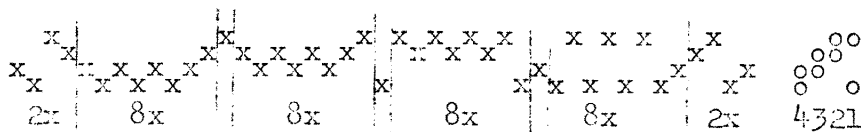
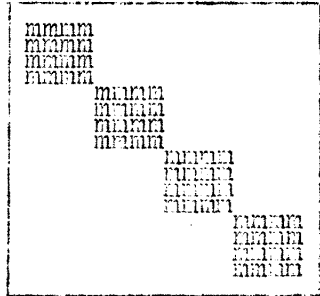

Fig. 4
Fig.5
A complete draft of a very simple 4 block pattern is shown in fig.4.
There are many ways in which this draft can be treadled. First of all it can be woven in the traditional way "woven-as-drawn-in" with a diagonal running across the whole woven piece. It will show four squares or colonial tables as in fig.5. But the tables may be woven in the "continental" way: each table made of 8 long,
2. The Borders. A border should have either a smaller or a simpler pattern than the main draft. In our case it would be difficult to get a smaller, undistorted pattern without additional frames, but we can have a simpler one: a plain diagonal as in fig.4.
The draft for border on fig.4 does not fit neither side of the main draft. There is no continuation of design. Consequently we have to change it as in fig.5 for the LH border, and fig.6 for the RH one. Since our repeat of the border draft has 12 ends we could use it 6 times, but then we would not have anything left for the selvedge. Thus we shall take it 5 times with 12 ends left for the edge.